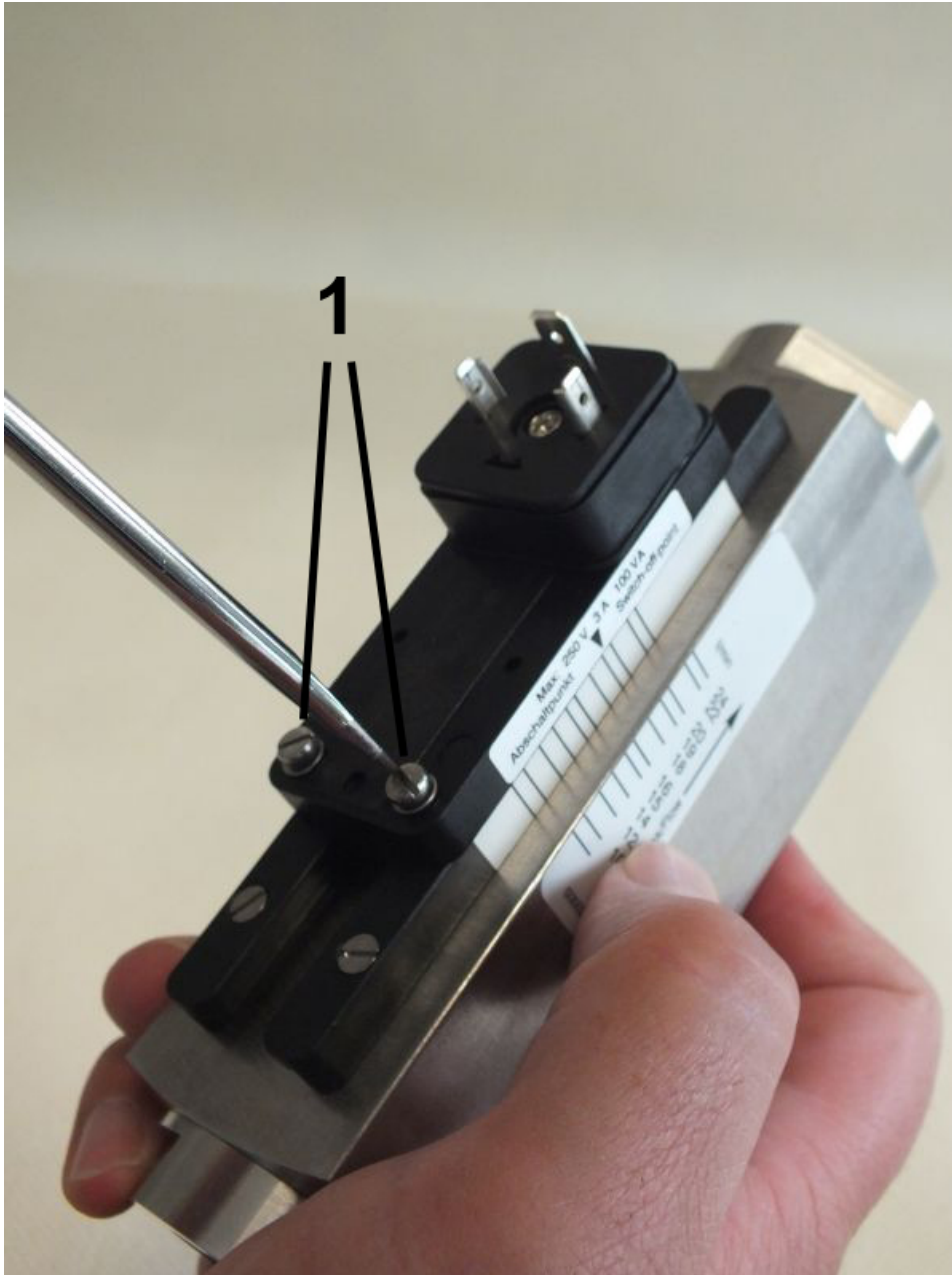

Fig. 60: Loosen set screws
- 3.** ➤ Using a flat-bladed screwdriver (*Fig. 60/1*) loosen the set screws of the switch contact until it moves freely
11. ➤ Tighten the set screws (*Fig. 60/1*) observing the tightening torque of the screws (➔ *Chapter 11.1 "Tightening torque" on page 91*)